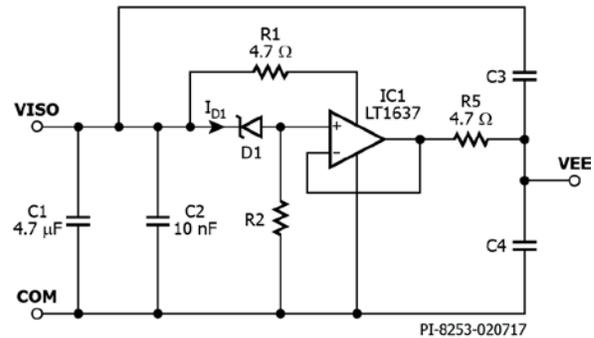
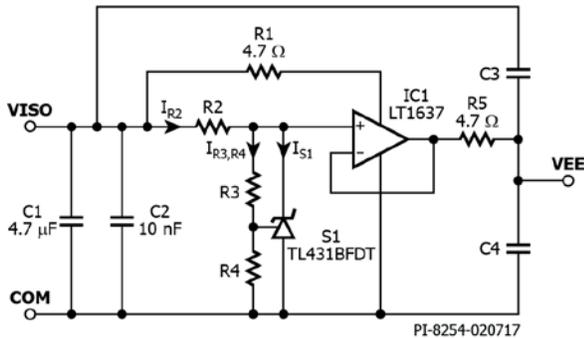

Figure 4. VEE-Regulator for SiC MOSFET Switches with Regulated Positive Rail.
Figure 5. VEE-Regulator for SiC MOSFET Switches with Regulated Negative Rail.
- An impedance transformer (IC1 in Figure 4 and Figure 5) is placed between the midpoint of the voltage divider and the new emitter (or source) reference VEE\* to provide sufficient current sink and sourcing to regulate the voltage rails.
Figure 4 shows an example of a regulated positive voltage rail using a combination of a Zener diode D1 and series resistor R2. Figure 5 shows an
Referring to Figure 4, the positive rail voltage  $V_{VISO}$  is calculated using the following formula:
Referring to Figure 5, the negative rail voltage  $V_{COM}$  is calculated using the following formula and based on the data sheet and application notes of the shunt regulator TL431BFDT (S1):